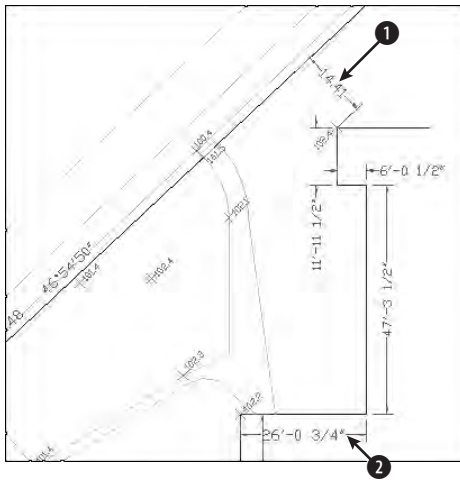

Figure 14-36: A dimensioned civil engineering drawing
2. Save the file as `ab14-09.dwg` in your AutoCAD Bible folder. This is a civil engineering drawing whose dimensions need some editing. It is shown in Figure 14-36. If the Dimension toolbar isn't visible, right-click any toolbar and check Dimension.
3.  The dimension at ❶ in Figure 14-36 is not in the proper units because the text was entered explicitly as 14.41. To correct this error, choose Dimension Edit from the Dimension toolbar. At the `Enter type of dimension editing [Home/New/Rotate/Oblique] <Home>:` prompt, right-click and choose New. The Multiline Text Editor opens, showing the angle brackets. Because you want the original text, click OK. At the `Select objects:` prompt, pick ❶. Press Enter to end object selection. (You could correct several dimensions this way.) AutoCAD corrects the dimension, automatically creating the text in the current units.
4.  The dimension text at ② in Figure 14-36 is too close to the dimension line of the vertical dimension that crosses it. Choose Dimension Text Edit from the Dimension toolbar. At the Select dimension: prompt, pick ②. At the Specify new location for dimension text or [Left/Right/Center/Home/Angle]: prompt, right-click and choose Right. AutoCAD moves the text to the right.